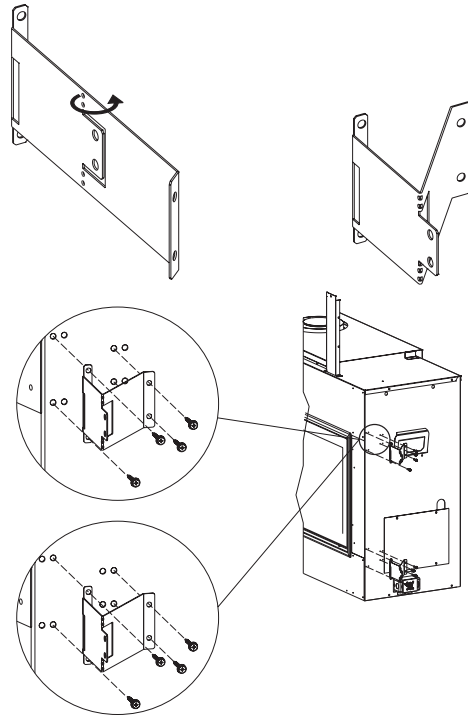

Figure 24
3. Secure the four framing brackets and hand bend them into a V shape as shown in **Figure 24**. Secure with #10 x 1/2 inch hex-head screws.
4. Locate the nailing flanges on the sides of the fireplace (two each side). **See Figure 24**.